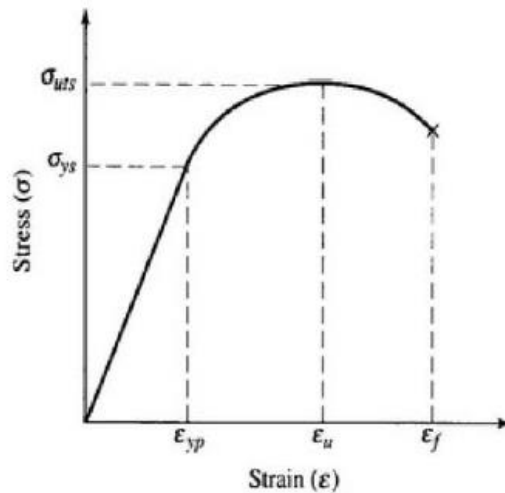

Figure 5-60: Strain-Stress-Curve
- Young's modulus E : The formulas shown above only work in the linear part of the *Strain-Stress-Curve*, which is shown in Figure 5-60. In this area a constant factor between stress and strain exists.